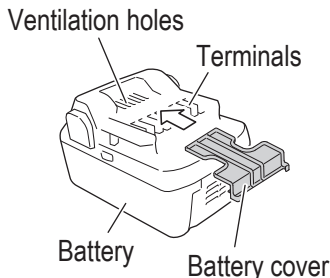

Fig. 2
- To prevent shorting from occurring, load the battery in the tool or insert securely the battery cover for storing until the ventilator is not seen. (See Fig. 2)